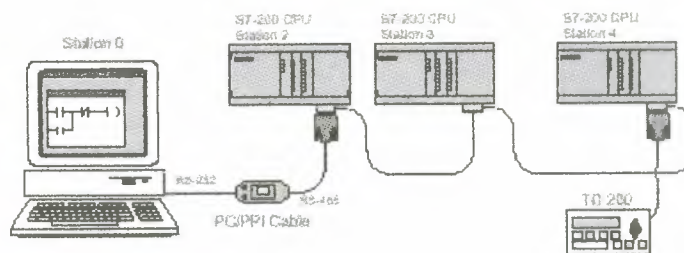
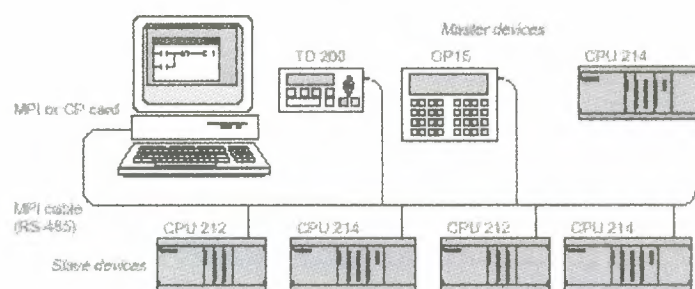

Figure 6.6 Using a PC/PPI Cable for Communicating with Several S7-200 CPU Modules
Figure 6.7 Example of an MPI or CP Card with Master and Slave Devices
- A single master device is connected to one or more slave devices and one or more master devices. See Figure 6.6 and Figure 6.7.
Figure 6.6 shows a configuration with a personal computer connected to several S7-200 CPU modules. STEP 7-Micro/WIN is designed to communicate with one S7-200 CPU at a time; however, you can access any CPU on the network. The CPU modules in Figure 6.6 could be either slave or master devices. The TD 200 is a master device.
processor (CP) card. Either card provides a single RS-485 port for connection to the network using an MPI cable. STEP 7 Micro/WIN 32 (the 32-bit version) supports the MPI parameter set for an MPI network; STEP 7-Micro/WIN 16 (the 16-bit version) does not. After establishing MPI communications, you can connect STEP 7-Micro/WIN on a network that contains other master devices. Each master must have a unique address. Figure 6.7 shows a sample network with master and slave devices.